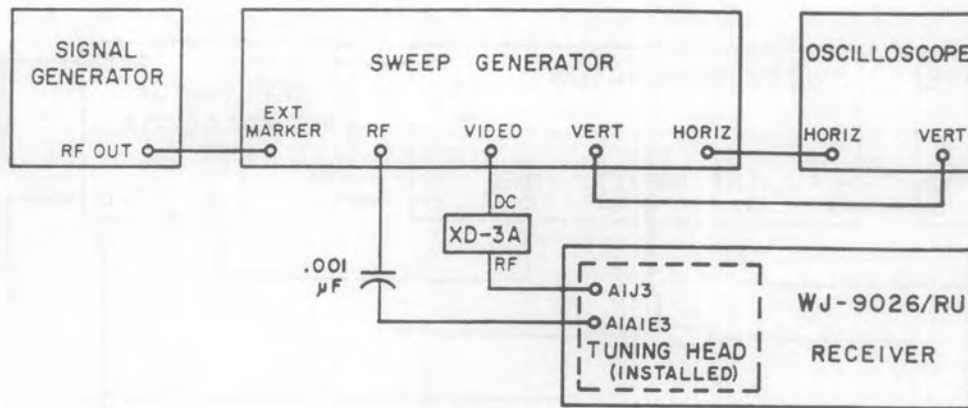
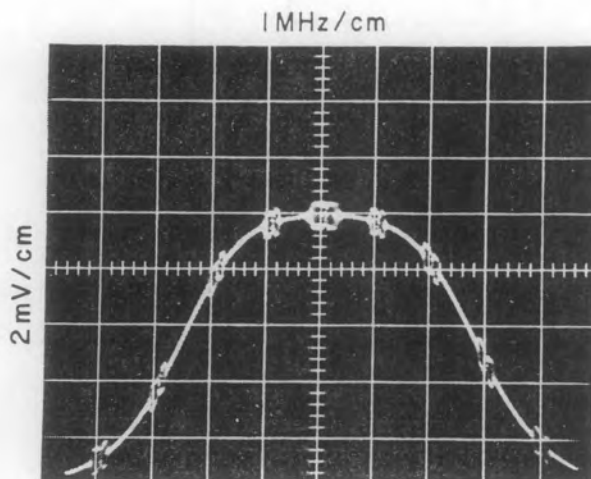

Figure 4-27. Test Setup, 60 MHz Alignment
Figure 4-28. Typical Response, RF Tuner Output Filter
- (1) Connect the equipment as shown in Figure 4-27.
- (2) Tune the sweep generator and the signal generator to 60 MHz, using a frequency counter to calibrate the signal generator.
- (3) Adjust the oscilloscope and sweep generator controls to display a response. The sweep generator output should be kept to as low a level as is practical.
- (4) Switch on the 1 MHz comb marker in the sweep generator. Adjust capacitors C55, C59, and C61 for a symmetrical response similar to Figure 4-28.